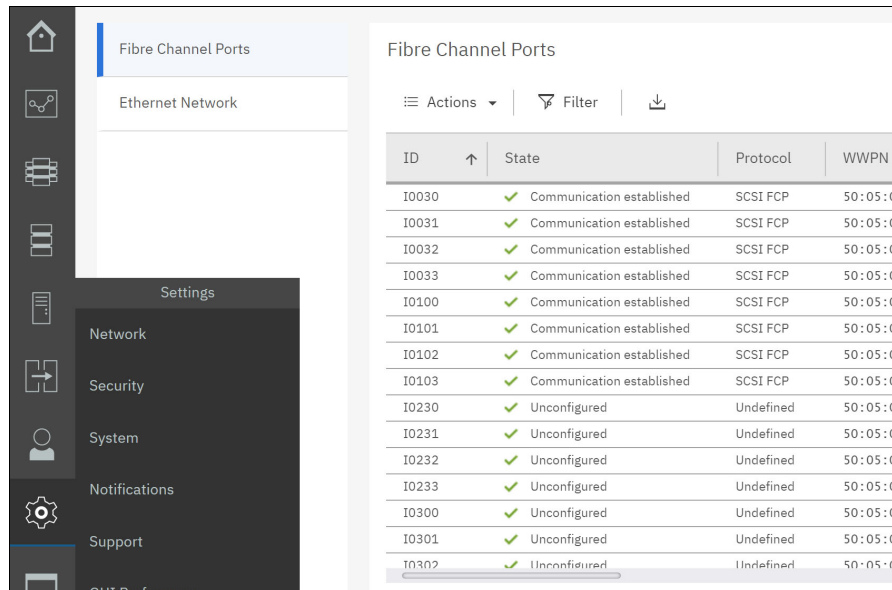

Figure 9-51 Fibre Channel Ports window
1. From the DS GUI left navigation menu, click **Settings** → **Network** and select **Fibre Channel Ports** to open the Fibre Channel Ports window (Figure 9-51).